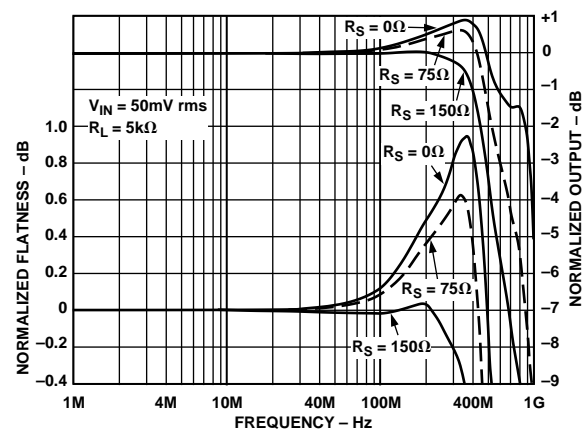

Figure 20. Frequency Response vs. Input Series Resistance
- 5A resistor ( $R_S$ ) placed in series with the mux inputs serves to optimize 0.1 dB flatness, but is not required. Increasing output capacitance will increase peaking and reduce bandwidth (see Figure 20).
Each open-loop buffer is implemented as a complementary emitter follower that provides high input impedance, symmetric slew rate and load drive, and high output-to-input isolation due to its  $\beta^2$  current gain. The selected buffer is biased ON by fast switched current sources that allow the buffer to turn on quickly. Dedicated flatness circuits, combined with the open-loop architecture of the AD8180 and AD8182, keep peaking low (typically  $< 1$  dB) when driving high capacitive loads, without the need for external series resistors at the input or output. If better flatness response is desired, an input series resistance ( $R_S$ ) may be used (refer to Figure 20), although this will increase crosstalk. The dc gain of the AD8180 and AD8182 is almost independent of load